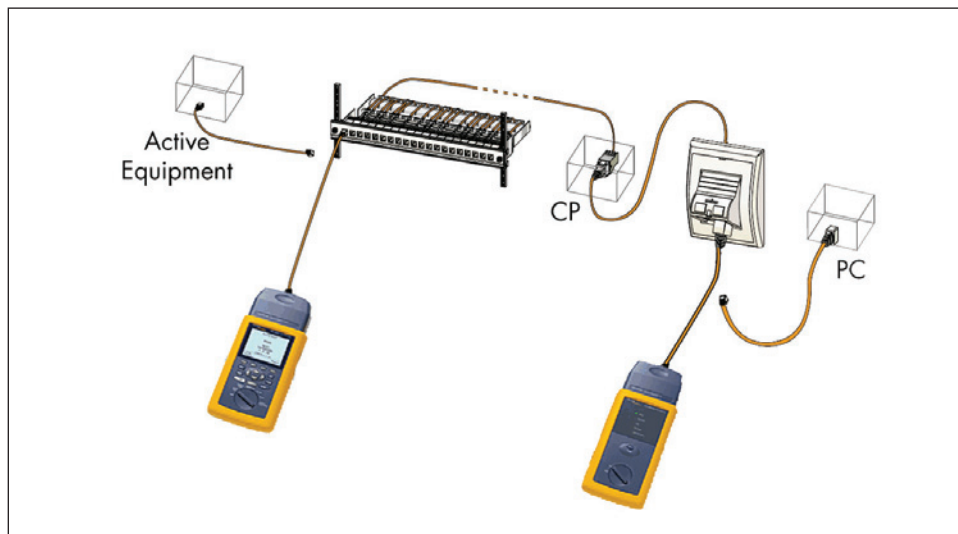

Figure 2.3: Testing at 3 connector Interconnect - CP - TO model
Testing in a 3 connector test model as shown in Figure 2.3 is mandatory to acquire a LANmark-6A Certified Systems Warranty on the complete installation (= 3 connector installation) under the condition that the correct test heads are in use.
If LANmark-6A Ultim patch cords are used to cross connect the patch panels, testing as a 3-connector test model, described in 2.4.3 and testing the separate cross connect lead in channel will do to acquire a Nexans Certified Systems Warranty on the complete installation (= 4 connector installation). The installation includes a Consolidation point lead existing of a 'single ended' LANmark-6A Ultim patch cord which must be terminated using a Nexans N420.67A Evo Snap-in connector connecting the Consolidation Point (CP) to the Terminal Outlet (TO). Testing in a 3 connector test model as shown in Figure 2.3 is mandatory to acquire a LANmark-6A Certified Systems Warranty on the complete installation (= 4 connector installation) under the condition that the correct test heads and test limits are used.